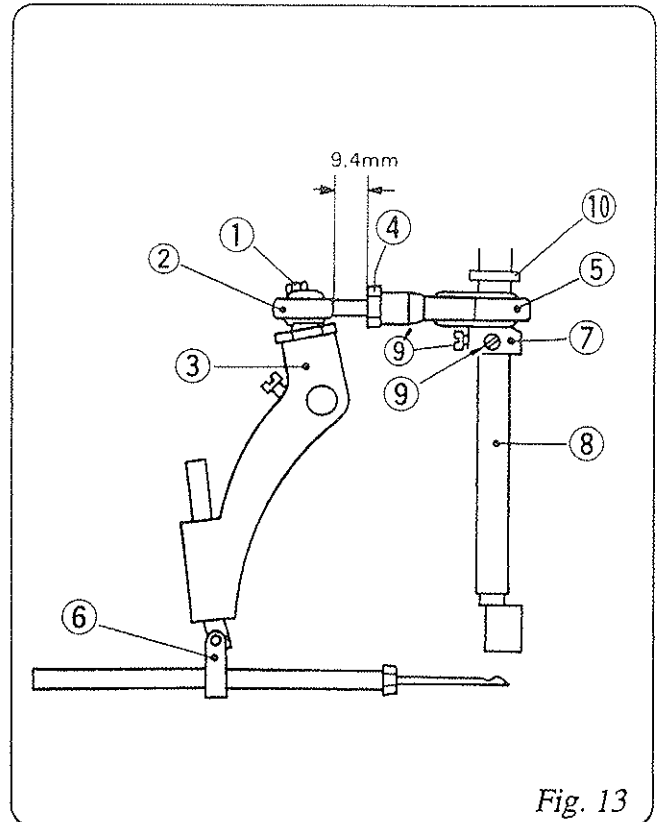

Fig. 13
For replacement or adjustment of Ball Rod, refer to Fig.13.
To fix Eccentric Cam ⑦ on Main Shaft ⑧, tighten the Screws ⑨ and ⑨ on Main Shaft ⑧ (Eccentric Cam ⑦ should contact Spacer ⑩ slightly.). The position of Needle is adjusted so that the distance between the point of Needle (at its highest position) and Throat Plate is 13 mm, after loosening screw on Needle Bar Connection Assembly ⑥ in Fig.13.
- ① Screw 11/64S40084
- ② Rod End 6A04001
- ③ Needle Bar Lever 242051A
- ④ Nut 1N8
- ⑤ Connecting Rod Assembly 242011A
- ⑥ Needle Bar Connection Assembly 242101A
- ⑦ Eccentric Cam (part of Connecting Rod Assembly) 242011
- ⑧ Main Shaft 241102
- ⑨ ⑨/Screw 11/64S40001
- ⑩ Spacer 241161